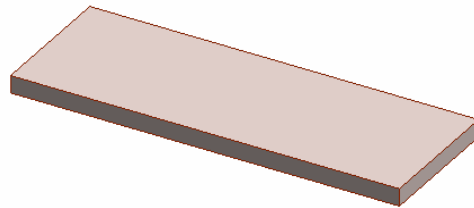

Figure 2. Base extruded $\frac{3}{4}$ "
4. Extrude this rectangle to a distance of $\frac{3}{4}$ " (0.75") above the workplane. It should look like figure 2.